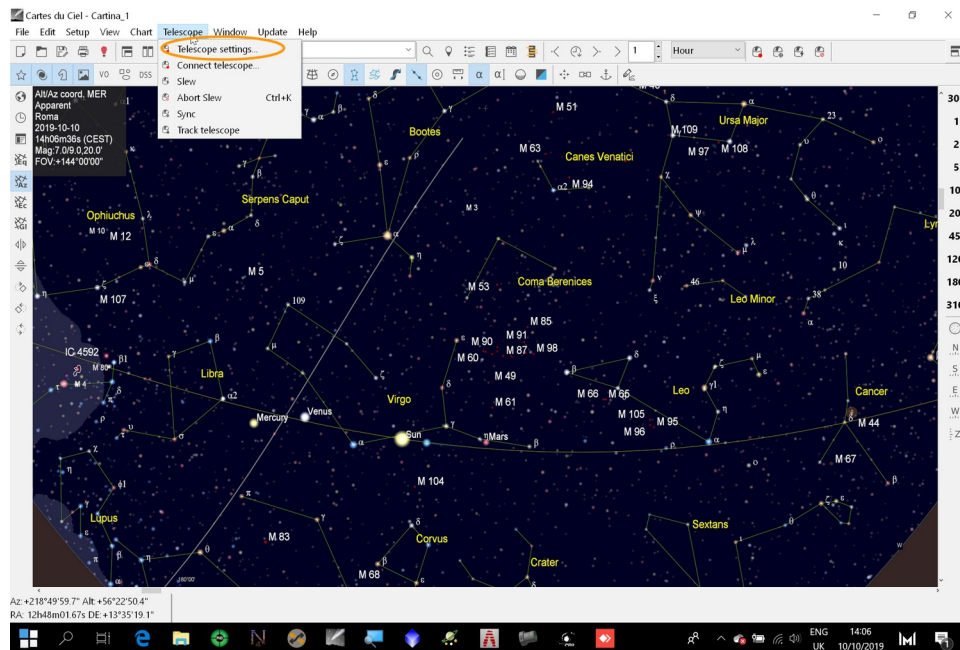

Figure 3.7a: CdC main GUI_1
- Select the “Telescope settings...” item under the “Telescope” menu of the main CdC interface, as indicated by the red oval in the following Figure 3.7a.